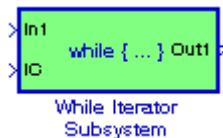
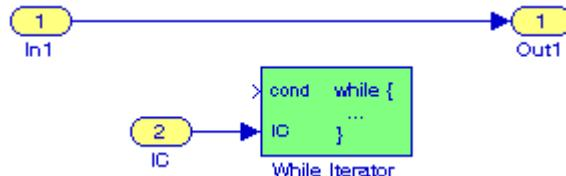
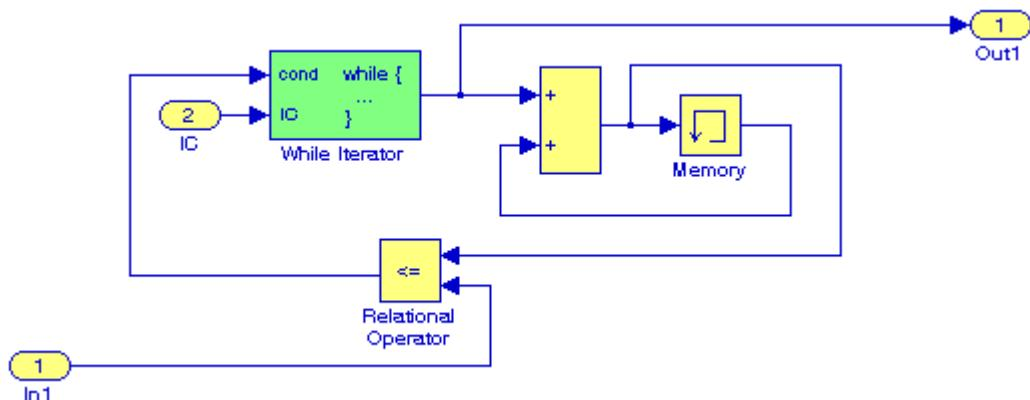
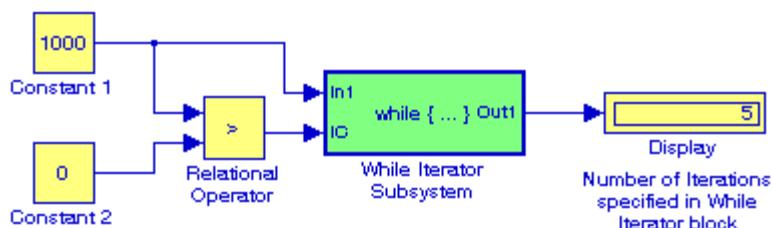

Figure 11.57. The While Iterator Subsystem block before configuration, Example 11.12
Figure 11.58. The While Iterator block for the While Iterator Subsystem block of Figure 11.57
Figure 11.59. The contents of the While Iterator Subsystem of Figure 11.57
Figure 11.60. Final form for the model for Example 11.12
We begin by dragging a While Iterator Subsystem block into a new model as shown in Figure 11.57. We double-click on it and the subsystem now appears as shown in Figure 11.58. We add and interconnect In1, Out1, Sum, Memory, and Relational Operator blocks, and the model of Figure 11.58 is now as shown in Figure 11.59. This example is similar to the example given in Simulink's Help menu for the While Iterator Subsystem block.
We return to the While Iterator Subsystem of Figure 11.57 and we add the Constant, Relational Operator, and Display blocks as shown in Figure 11.60. The output of the Relational Operator block is True (logical one) and this establishes the Initial Condition (IC) input to the While Iterator Subsystem block. As noted below the Display block in the model of Figure 11.60, the number of iterations is specified in the While Iterator is 5. The Display block in the model of Figure 11.61 indicates that the sum of the first N integers after 5 iterations is 765.